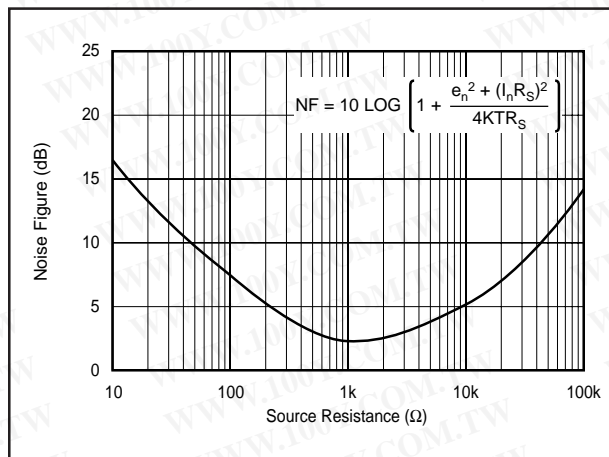

FIGURE 8. Noise Figure vs Source Resistance.
The OPA640 voltage and current noise spectral densities are specified in the Typical Performance Curves. For RF applications, however, Noise Figure (NF) is often the preferred noise specification since it allows system noise performance to be more easily calculated. The OPA640's Noise Figure vs Source Resistance is shown in Figure 8.